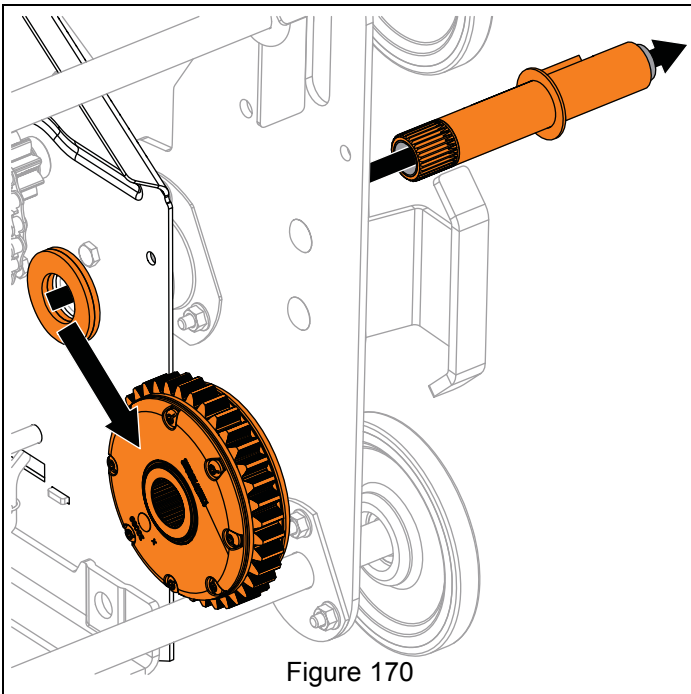

Figure 170
3. Reinstall stepped-down end of long axle through side plate, frame and into differential gear. See Figure 170.